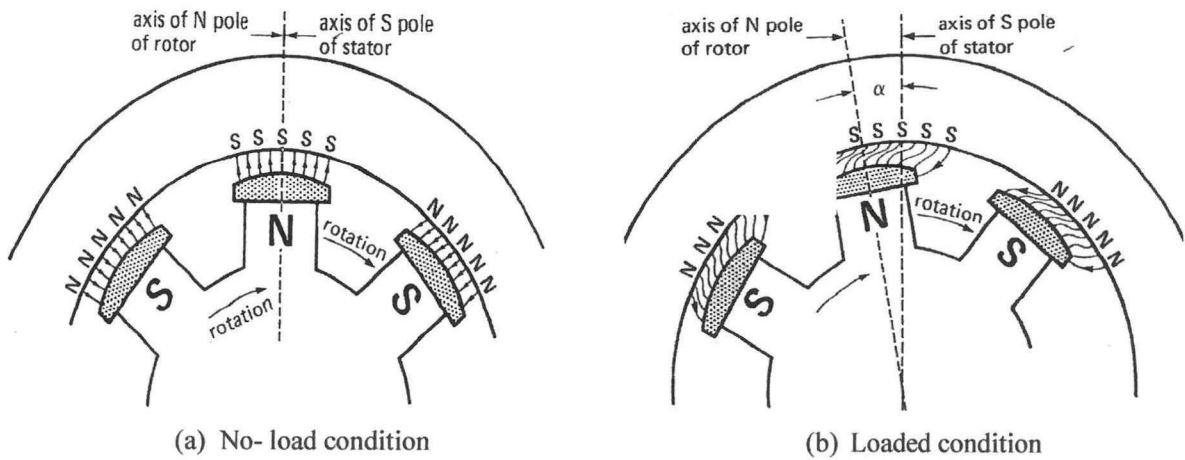

Figure Q3(b)
- (b) **Figure Q3(b)** shows the synchronous motor rotor pole and stator pole position under no-load and under load conditions. Analyse the diagram and discuss its characteristic. (5 marks)